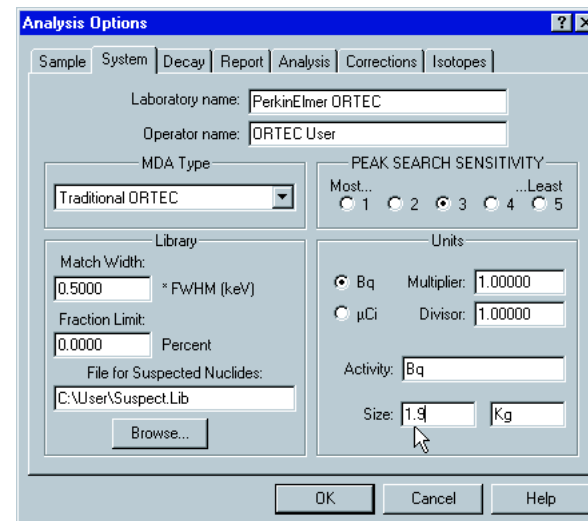

Fig. 37
2.11 Click the **System** tab and perform the following (Fig. 37 can be used as a guide):
- Complete the rest of the form as shown in Figure 37.